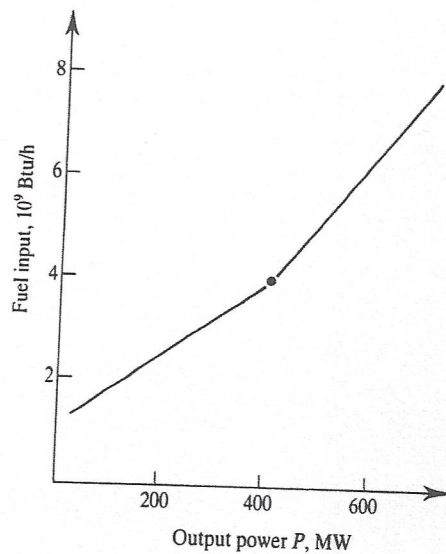

Fig. 9-8.
- 9.21 A graph of fuel input versus power output for a certain plant is given in Fig. 9-8. Determine the fuel requirements at (a) 120 MW and (b) 560 MW output power.